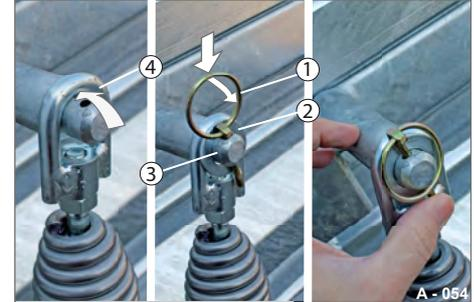

Fig. 35 Platform gate lifting spring secured
- ▶ Pull the towing eye (Fig. 35/4) of the platform gate lifting spring onto the bolt (Fig. 35/3).
- ▶ Insert the washer (Fig. 35/2).
- ▶ Press the locking pin (Fig. 35/1) into the bore hole from above so that it lies on the washer.